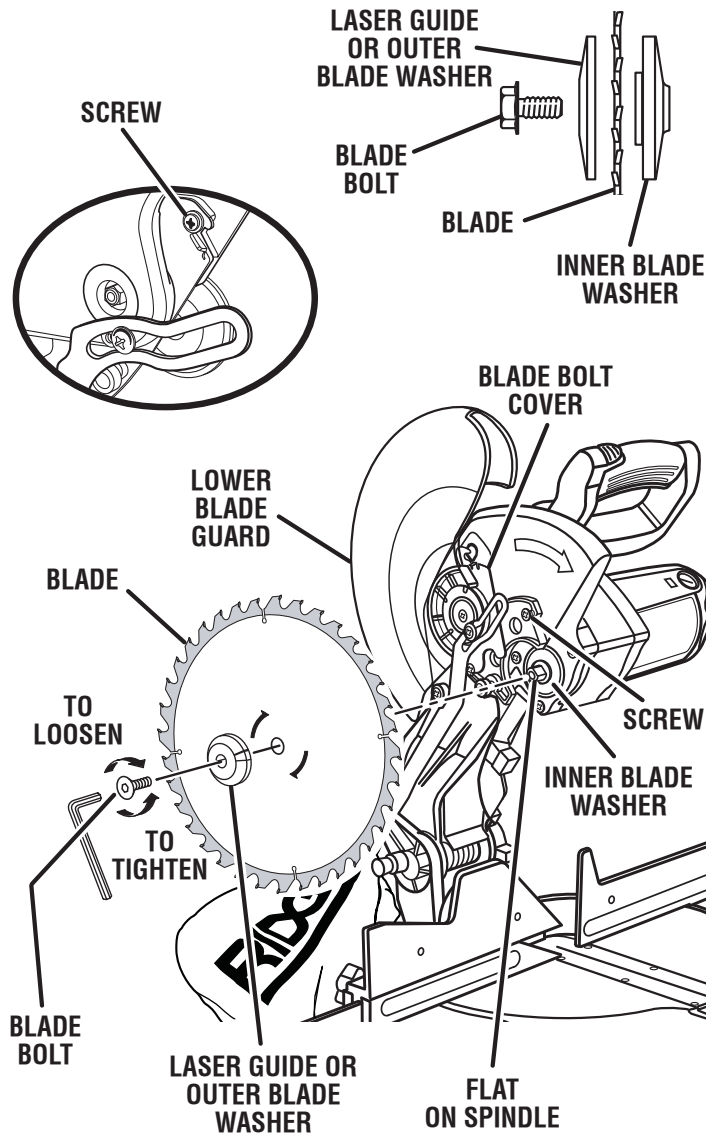

Fig. 14
See Figure 14.
- Fit saw blade inside lower blade guard and onto spindle. The blade teeth point downward at the front of saw as shown in figure 14.